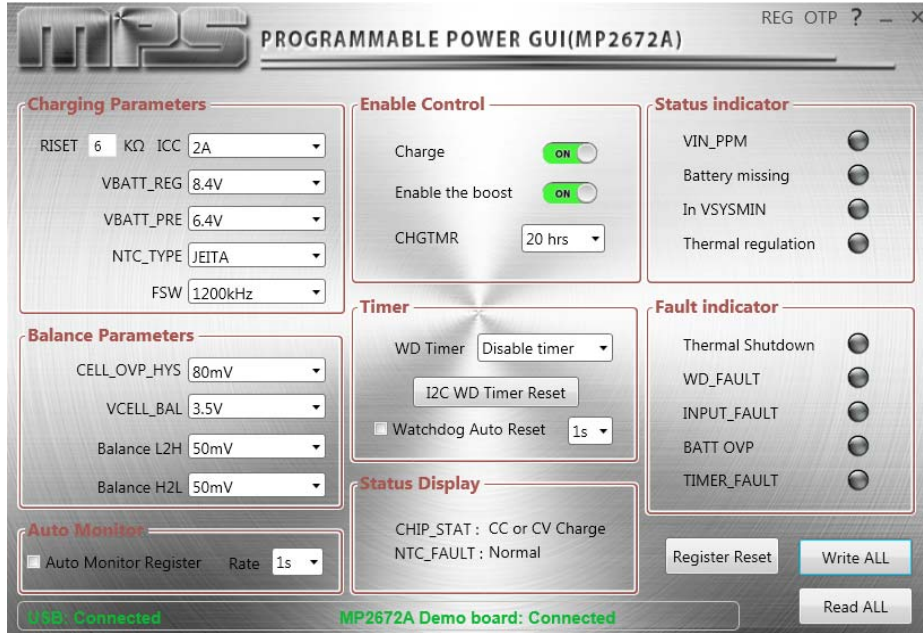

Figure 5: Successful Demo Board Connection
1. Ensure that all the connections are normal (the USB is connected and the EV2672A-D-00A is connected). If all the connections are successful, the user can run the program (see Figure 5).
2. Turn the DC source on. It should be ready to run the MP2672A in boost charge (see Figure 5).